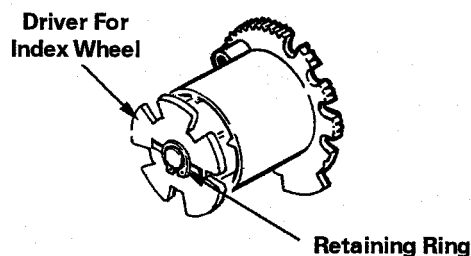

Figure 2-12
12. Remove retaining ring by holding driver for index wheel to timer shaft, *see Figure 2-12.*